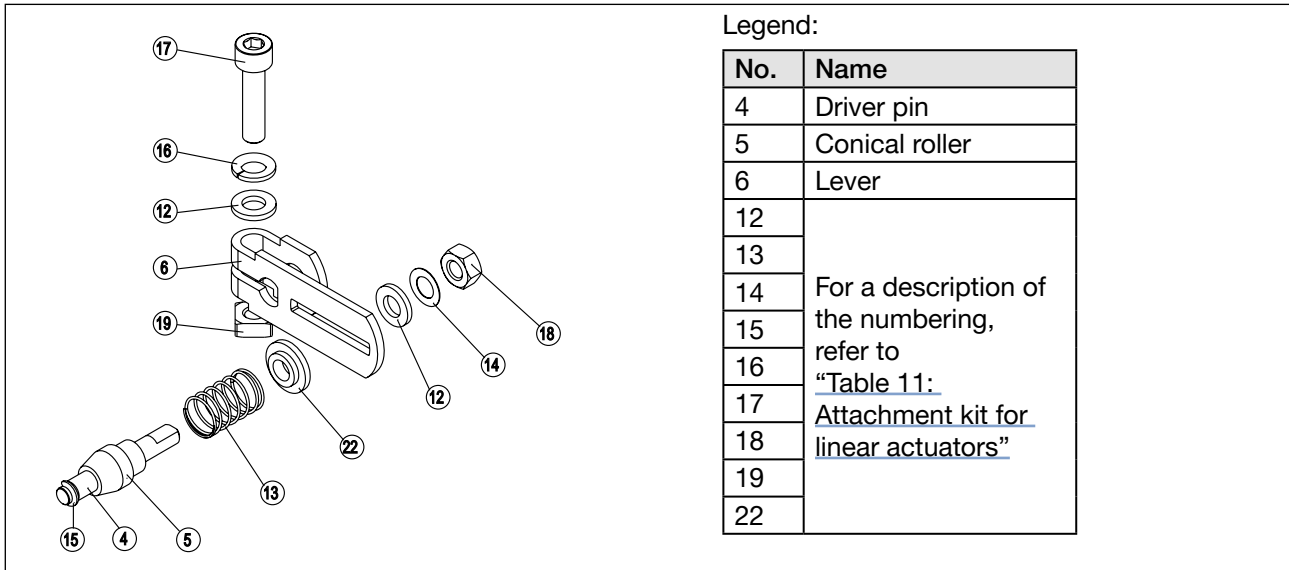

Fig. 13: Assembling the lever
- Assemble lever (if not pre-assembled) (see “Fig. 13”).